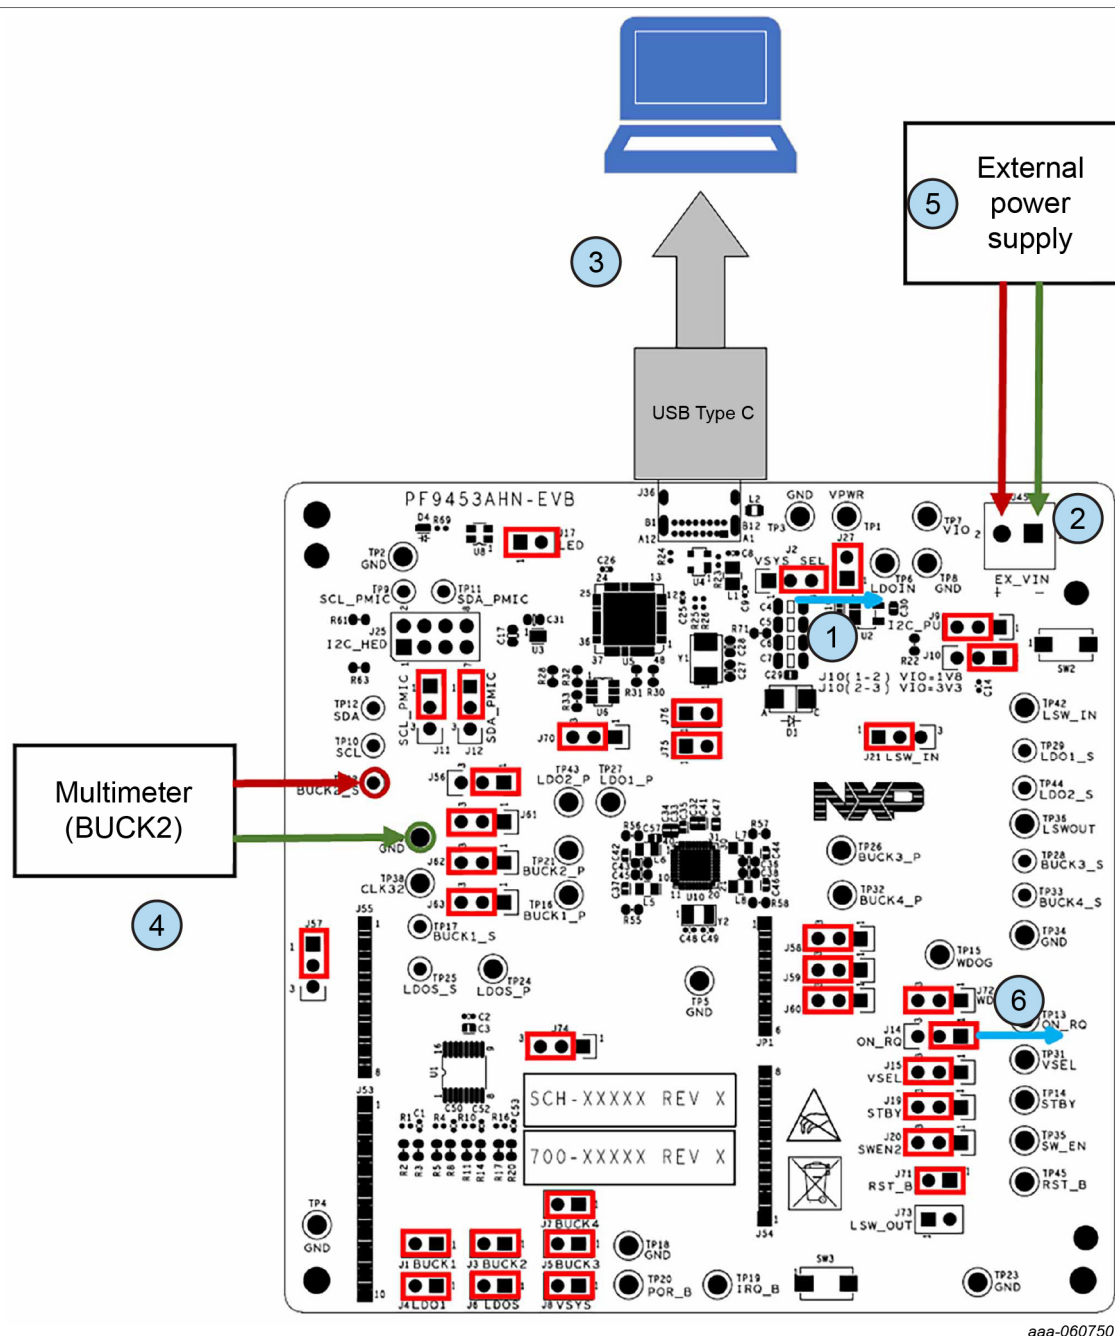

Figure 5. Using an external power supply
Figure 5 shows how to connect an external power supply in the PF9453 QFN – EVB.
1. Move the J2 jumper to position J2 (2 to 3). Input PMIC voltage from an external power supply, see Figure 5. Step 1 is represented with the circle with number 1.
2. Connect the external power supply to the J45 connector: positive terminal to J45 (pin 2), negative terminal J45(pin 1) see Figure 5, circle with number 2. The xternal power supply can also be conncted to the following tests points: positive terminal to TP1 (VPWR) and negative terminal to TP3 (GND).
3. Connect the USB-Type C to the PF9453-EVB, see Figure 5, circle with number 3.
- Connect the positive terminal of the multimeter to TP22 (BUCK2_OUT) test point and the negative terminal of the multimeter to TP30 (GND) test point. See Figure 5, circle with number 4.
- Configure the power supply to 5.0 V, 1 A, and turn it on. See that the green LED D4 is ON, see the Figure 5, circle with number 5.
- Move the J14 Jumper to position J14 (1 to 2), see Figure 5, circle with number 6. (This turns on the PMIC by setting the high state the PMIC_ON_REQ pin.)